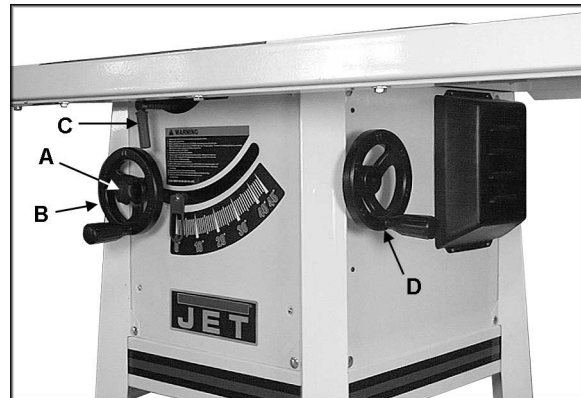

Figure 18
Referring to Figure 18:
3. Set the blade at 90° to the table by turning the blade tilting handwheel (D, Fig. 18) counterclockwise as far as it will go. Do not force beyond stop.
8. Set the blade at 45° to the table by turning the blade tilting handwheel clockwise (D, Fig. 18) as far as it will go. Do not force beyond stop.